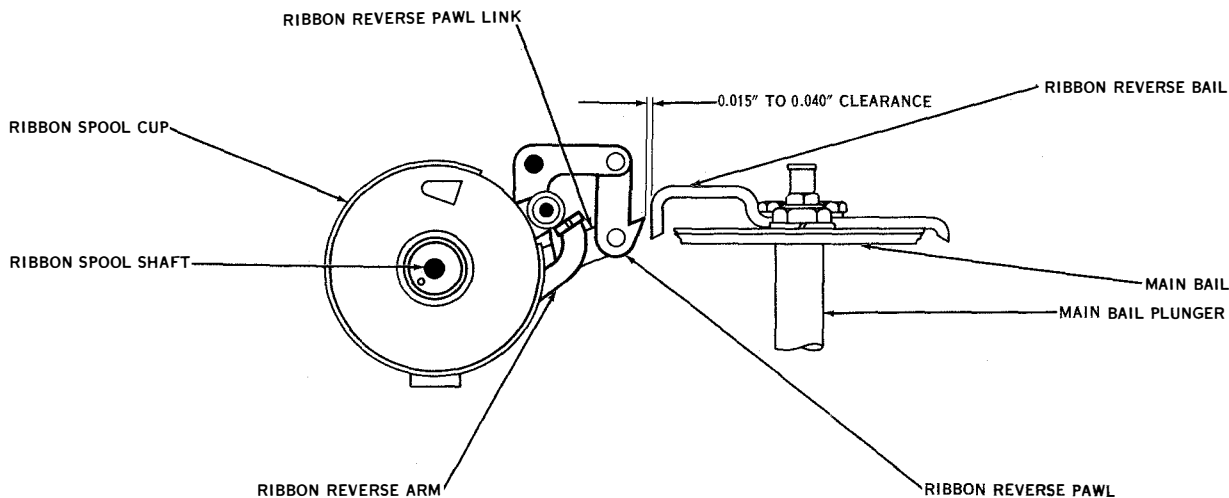

Figure 7-45. Ribbon Reverse Pawl Link
(39) **RIBBON REVERSE PAWL LINK.** (See figure 7-45.)—The ribbon reverse bail should clear the left or right ribbon reverse pawls by 0.015 to 0.040 inch when the ribbon reverse bail is positioned opposite the pawl. To check, position the ribbon reverse arm so that it is against the ribbon spool cup and check the clearance. When checking the 0.015-inch clearance between either reverse pawl, hold the ribbon reverse bail toward the pawl for minimum clearance. When checking the 0.040-inch clearance, hold the ribbon reverse bail away from the pawl for minimum clearance. To adjust, position the ribbon reverse arms on their shafts and make certain the ribbon reverse pawl links do not bind on their shoulder screws. Hold the arm in position and tighten the setscrew.